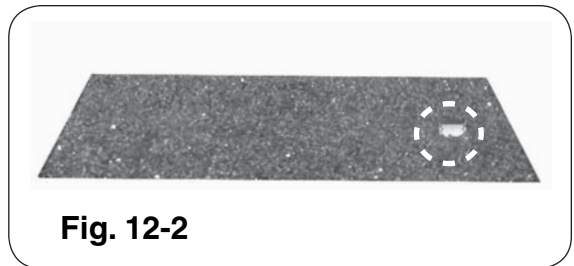

Fig. 12-2
1. Pour the glass out of the bag(s), evenly covering the lava chunks (see above) but not the screen (Fig. 12-2).